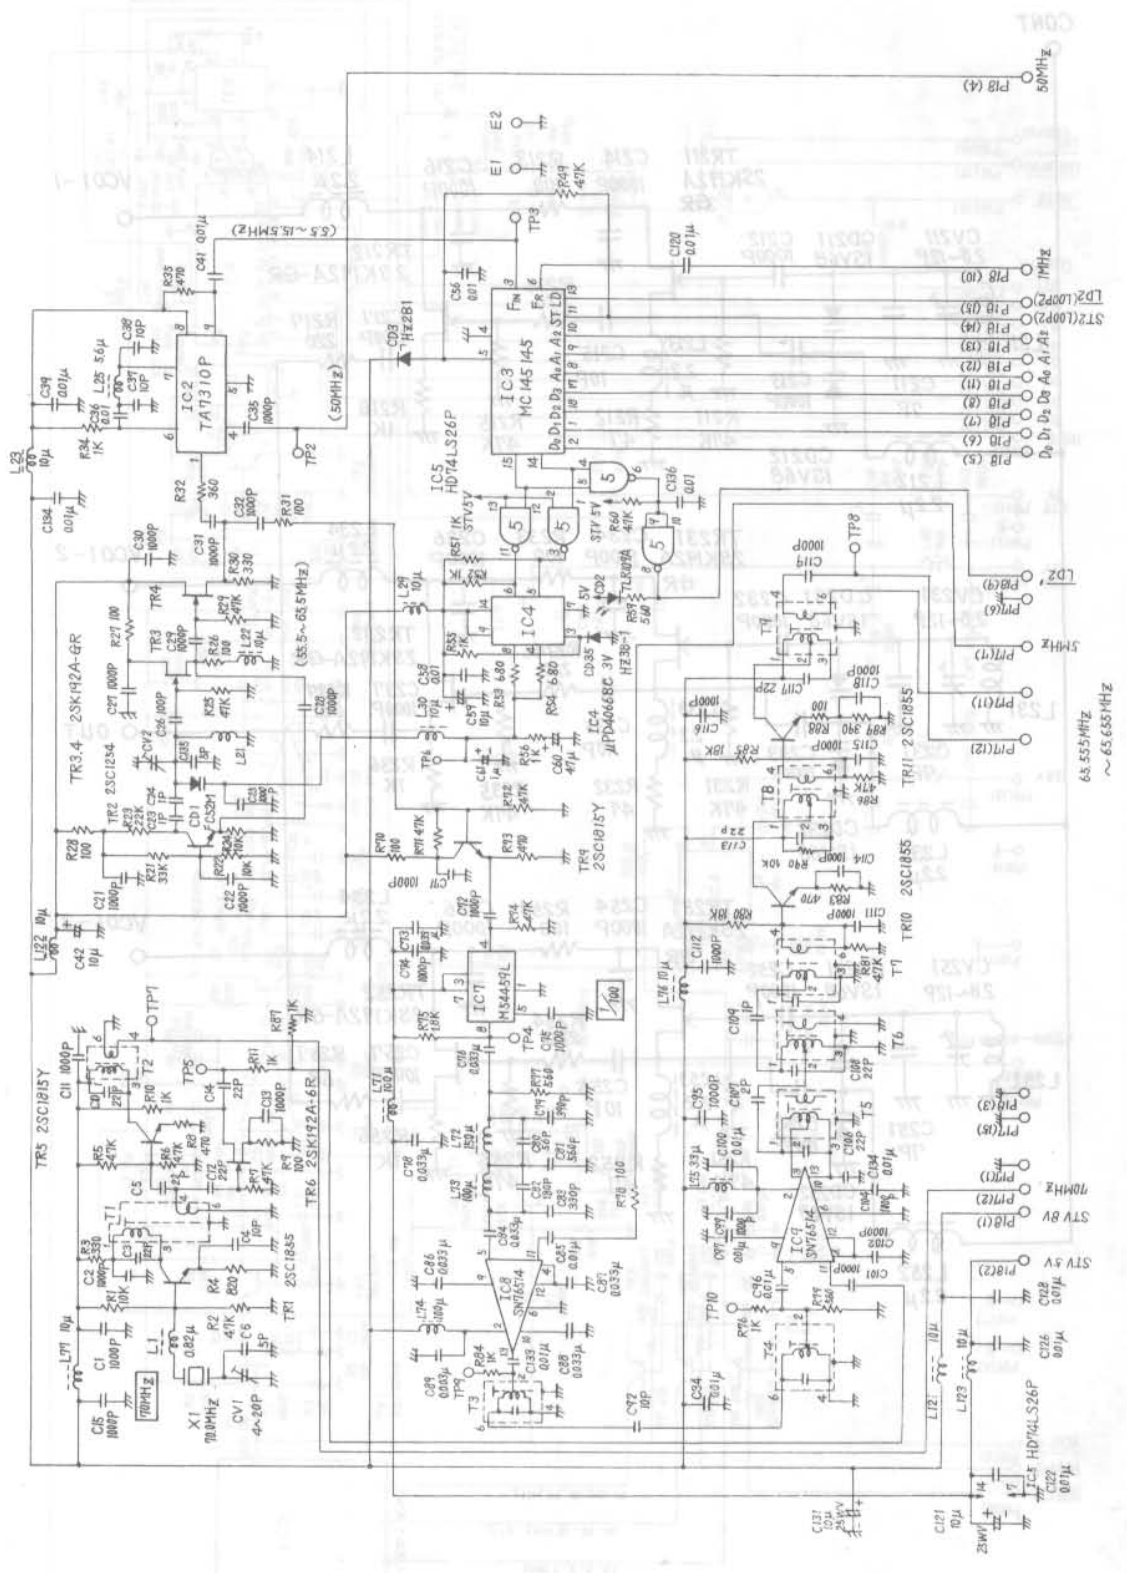

FIGURE 7.11 CGA-95 LOOP 2 UNIT CIRCUIT DIAGRAM
- FIGURE 7.11 CGA-95 LOOP 2 UNIT CIRCUIT DIAGRAM